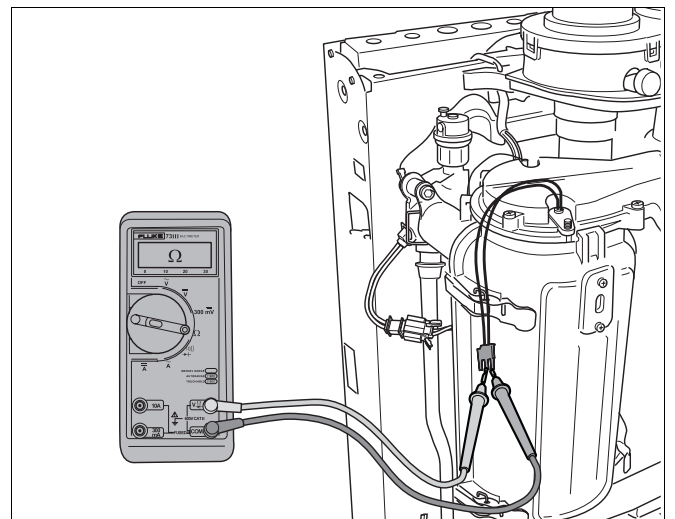

fig. 95 Measuring resistance of ignition unit
- Measure the resistance of the cable (→ fig. 95).